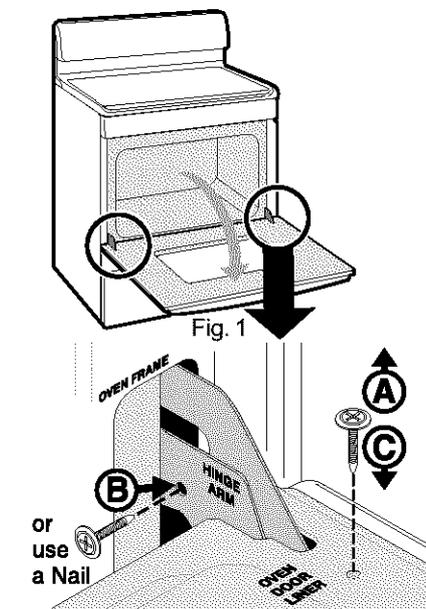

Fig. 2
1. **Pull the bearing glides to the front** of the chassis glide (see figure 2).
2. Remove 2 screws located on the inside of the oven door liner (See **A** Fig. 2)
3. Insert the 2 screws into the door hinge holes located on the side of the hinge arm, one into each hinge (See **B** Fig. 2).
5. Reinstall the 2 screws into the door liner (See **C** Fig. 2).